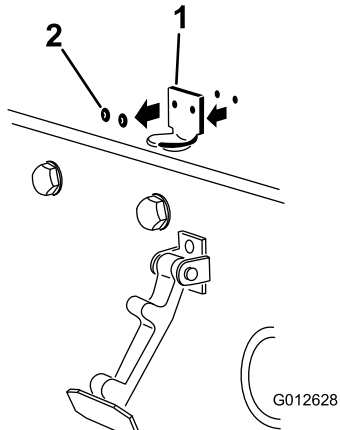

Figure 7
2. Remove the (2) rivets securing the hood-latch bracket to the hood (Figure 7). Remove the hood-latch bracket from the hood.